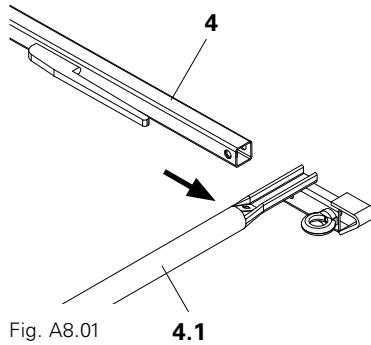

Fig. A8.01
1. Loosen ring bolts and remove strut (4.1) on the Front Guardrail (4). (Fig. A8.01)